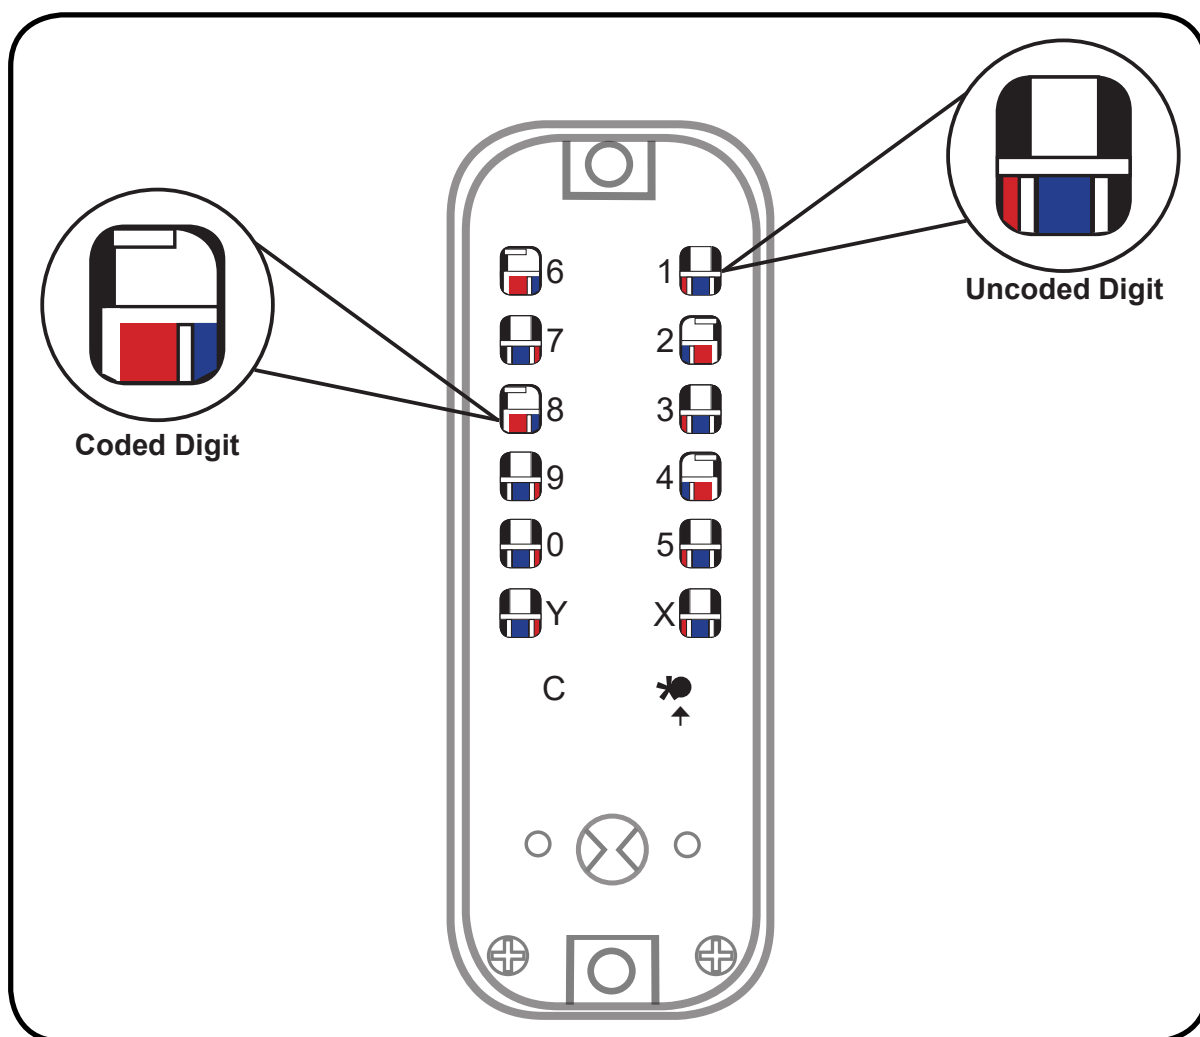

Fig.2
4. As per **Fig.2** below, you will see that the red lines on digits 2, 4, 6 and 8 are closest to the centre of the porthole and is the code. All the other holes will show a blue line - these are not in the code. Once all the coded buttons have been pressed all of the 12 portholes will have a blue lines in the centre.